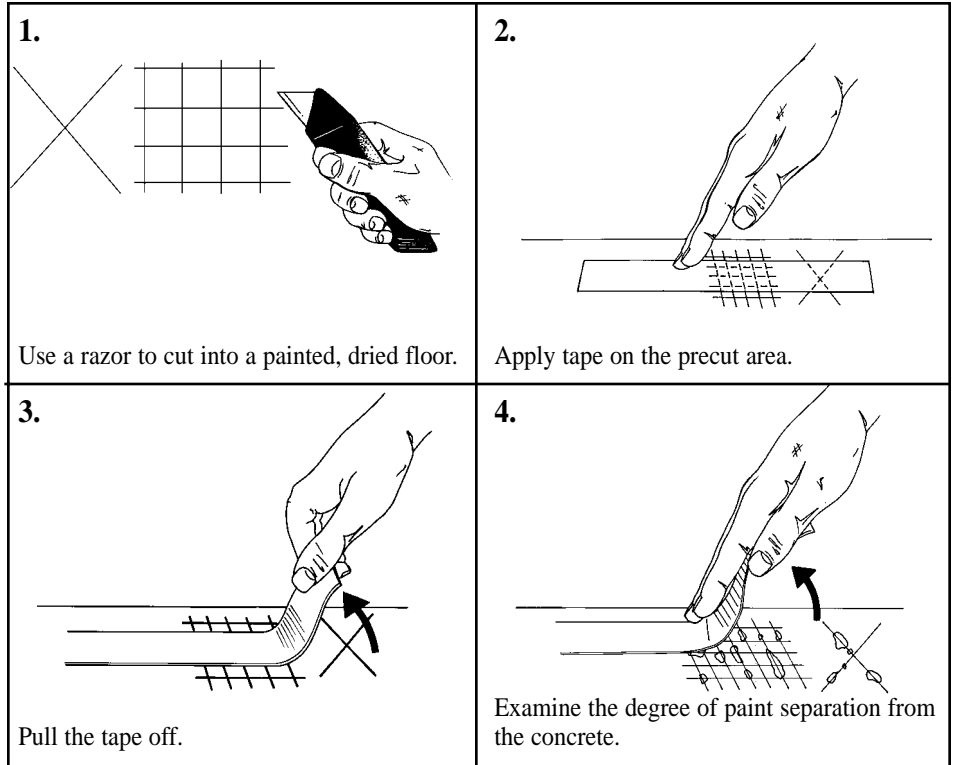

Figure 5. Adhesion Test on the painted floor.
2. Combine separate cans of paint into one container to ensure uniform color distribution. It is recommended that a test area be coated to ensure that the adhesion and electrical performance of the paint is acceptable. (See Adhesion Testing, Figure 5.) If the test areas show inadequate adhesion, use an industrial floor primer/sealer.